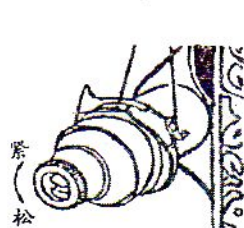
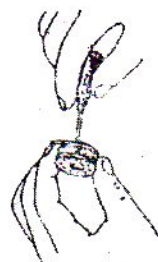

图10 Fig10
图11 Fig11
(1) 面线松紧调节，将夹线螺母（图10）按箭头指示方向旋转，就是收紧，反向旋转，就是放松。(2) 底线松紧调节：卸取梭心套，将梭心套的梭皮螺钉（图11）按箭头指示方向旋转，就是收紧，反方向旋转，就放松。
Turn the tension disc screw(Fig 10) in the direction indicated by the arrow, and the thread will become tight; turn it in the opposite direction, and it will become loose.
tle tension regulating screw(Fig11) in the direction indicated by the arrow, and the tension of bobbin thread will become tight; turn it in the opposite direction, and it will become loose.